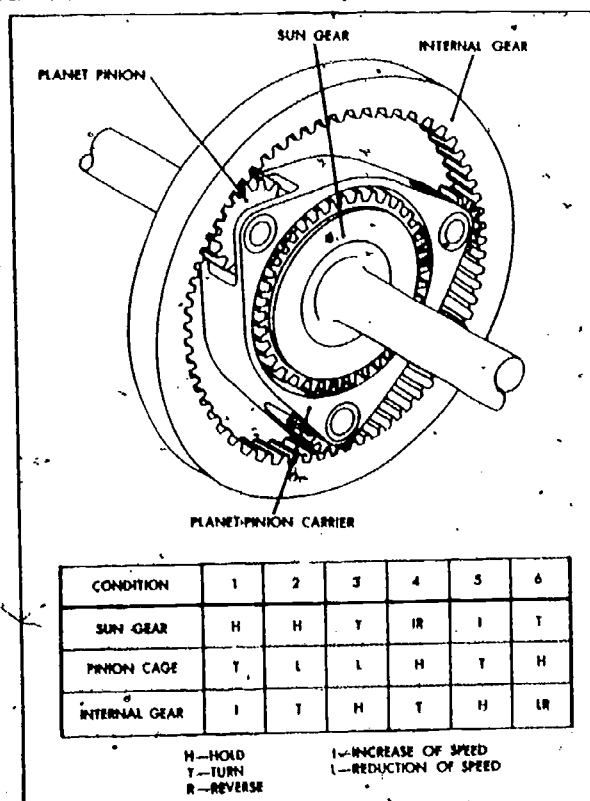
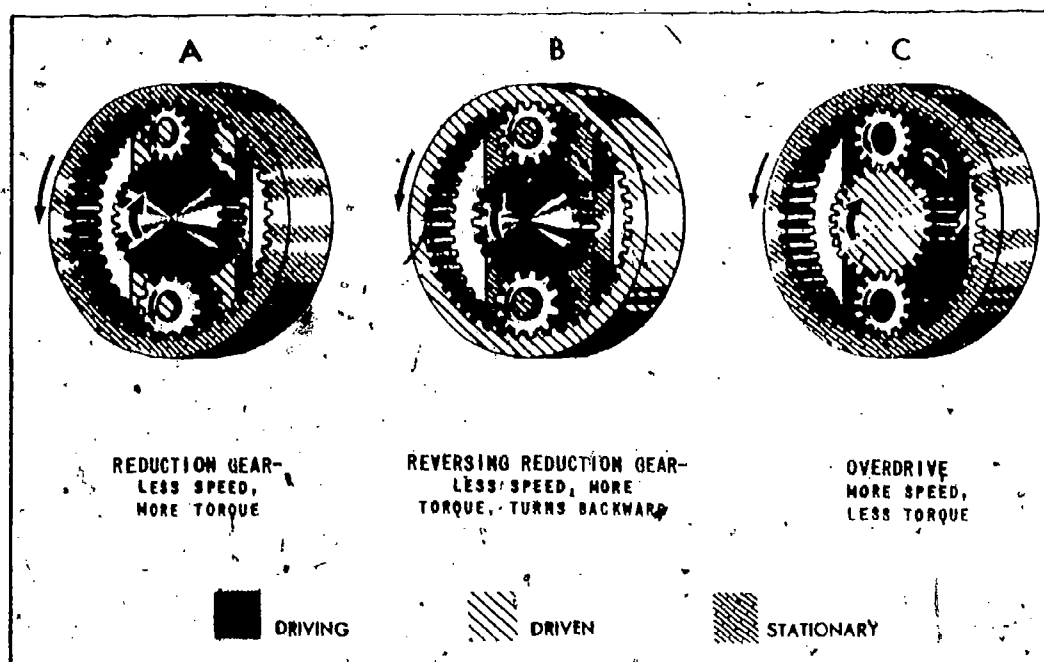
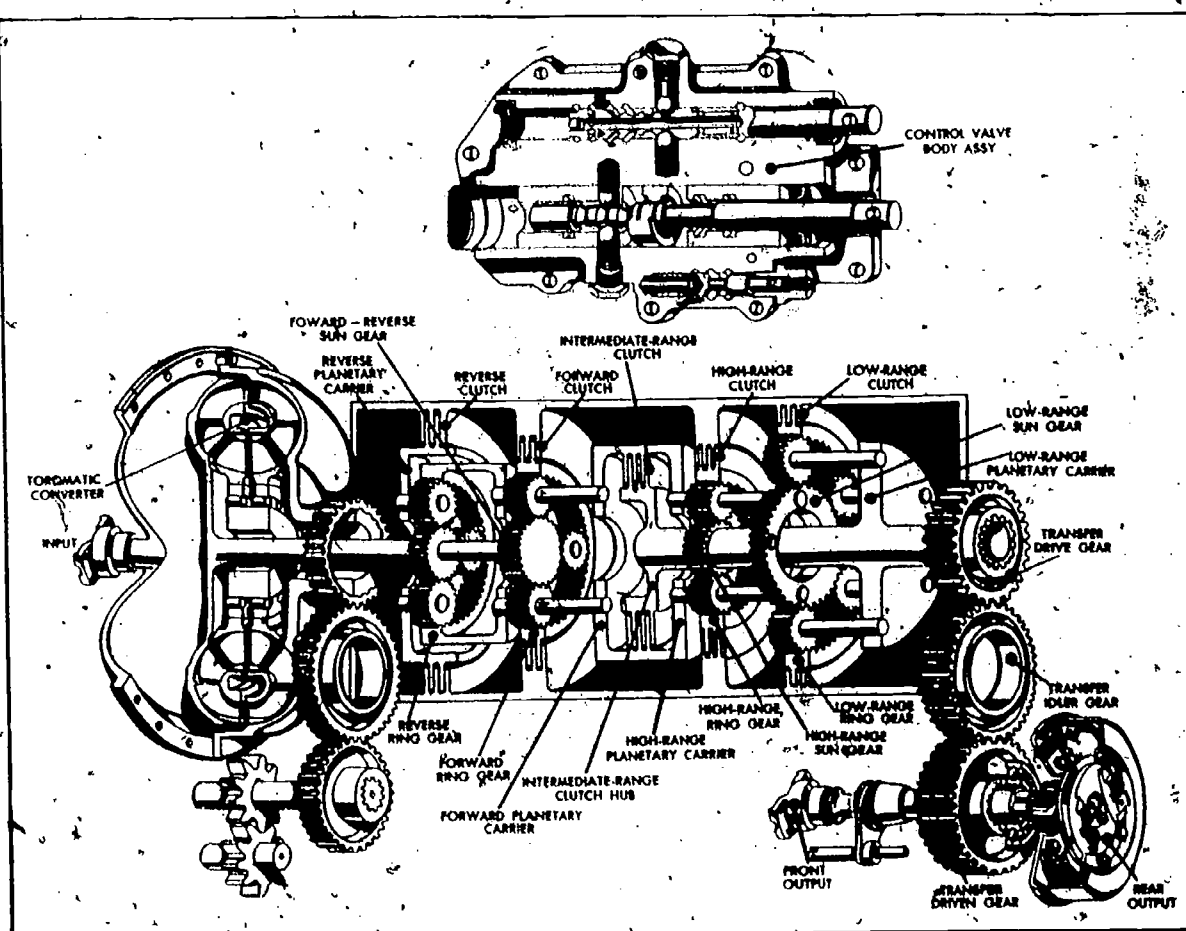

Fig 3-19. Planetary system and action chart.
Fig 3-28. Planetary output combinations.
Fig 3-29. Torqmatic transmission and selector valve assembly.
- (e) Planetary gear system (fig 3-19). This system is composed of spur gears, ring gears, shafts, bearings, and other components. Although often referred to as a planetary gear, it is a gear system. The system consists of three rotating members: the internal ring gear, the sun gear, and the planet pinion set. The planet pinion set consists of the planet pinions, the planet pinion carrier, and the planet pinion shafts and bearings. Planetary systems are used in transmissions, rear axles, and winches. The system is arranged so that gear ratios can be increased or decreased, and so that the direction of rotation can be reversed by holding one of the rotating members and turning the others. There are six possible selections for the system shown in figure 3-19. For example, in the chart (fig 3-19), if you hold the sun gear and turn the pinion carrier, you will have an increase in speed.
- (1) Principles of operation. Earlier in this chapter you noted that a simple planetary system will provide six different conditions (three forward and three reverse speeds). Figure 3-28 illustrates the direction of rotation and how the gear ratio is affected.
As illustrated in figure 3-19 and figure 3-28, the direction of rotation and the speed of the output shaft are controlled by the size of the gears and the member that is held stationary. The torqmatic transmission uses five clutches which are hydraulically applied and spring-released to control the planetary systems. Figure 3-29 illustrates the position of the clutches in relation to the planetary system. Oil pressure from a pump in the torque converter flows through the control valve assembly where the operator selects a range and a direction. Study the schematic and note that the reverse planet pinion cage can be held by the clutch. You should also note that the reverse ring gear and the forward planet carrier form the planet pinion cage for the forward clutch; the high-range planet carrier and the low-range sun gear form the planet pinion cage for high-range clutch. This is a compound planetary gearing system. All gears within the system remain in constant mesh; there is no need to slide the gears in and out of mesh since this can be accomplished by engaging or disengaging clutches. When the torque converter output shaft is turning, there is power available to the forward and reverse sun gears. By engaging one of the clutches, the power will be transmitted on through the planetary gearing to the range planetary systems. When one of the range clutches is engaged, the power will flow through the transfer drive gears to the output shafts.